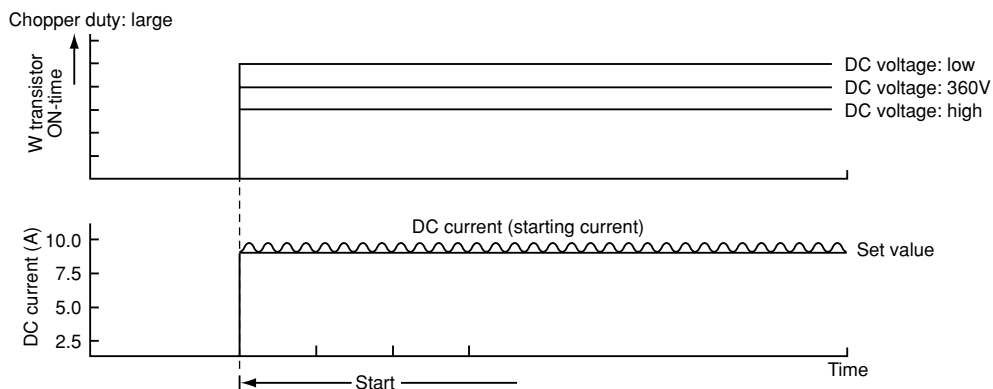

Fig. 8-7
(2) As shown in Fig. 8-7, ON time of W⁺ transistor changes according to DC voltage level so that starting current is about 10A.